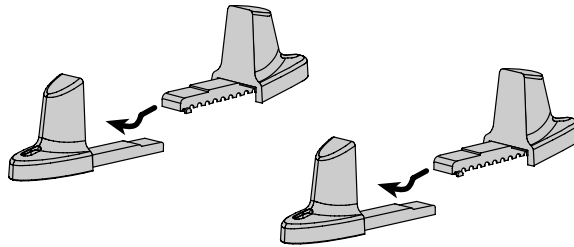

Figure 11. Assembling the UPS Pedestals
1. Assemble the UPS pedestals (see Figure 11).